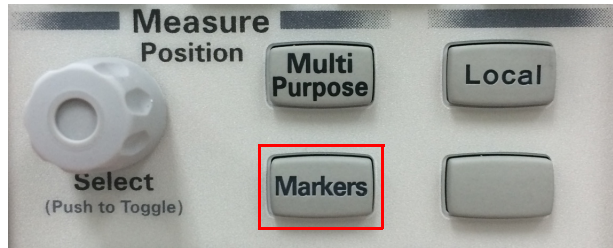

Figure 2-113 Markers button in the Measure section
- 2 You can also press **Markers** in the Measure section on the front panel as shown in Figure 2-113 or select **Tools > Marker** on the toolbar.